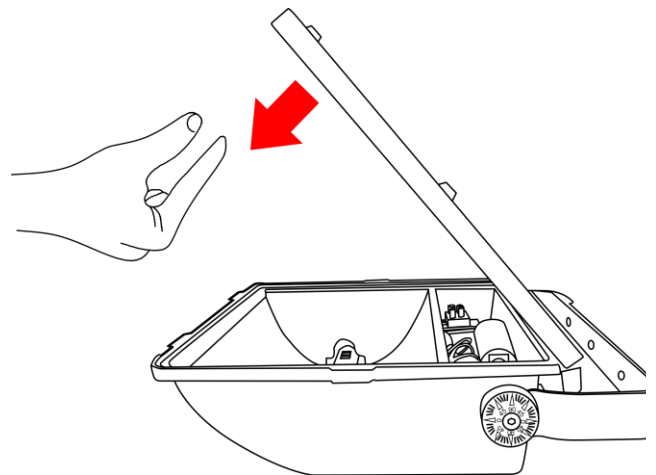

Fig. 05
- 06) Push the glass plate back in the direction of the arrow (Fig. 05).